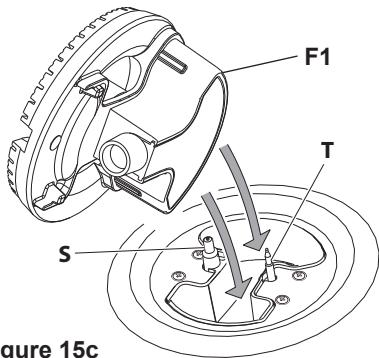

Figure 15c
It is very important to check that the burner flame spreader "F1", "F2" or "F3" and the caps "A", "B" have been correctly positioned (see figs. 15c, 15d, 15e, 15f, 15g). Failure to do so can cause serious problems.
- Fit the flame spreader to the housing: the burner ribs must be fitted in their housing as shown by the arrows (see figs. 15c, 15d or 15e).